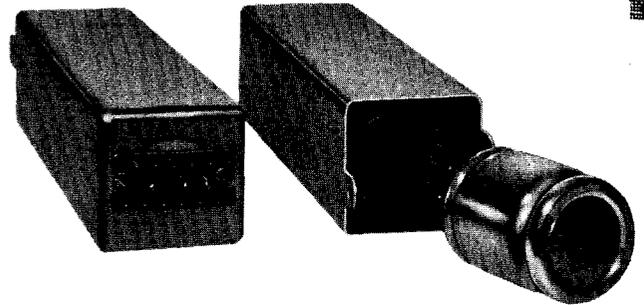

Fig. 1 — 849A Network
2.01 The 849A network is a plug-in unit (see Fig. 1) equipped with a 15-pin connector plug and is designed to be plugged directly into the mating connector socket of the equipment mounting shelf. The network consists of a 600:1200-ohm transformer and a 600-ohm balanced pad (when the required 89-type plug-in resistor is inserted in the pad socket). The network is housed in a metal can approximately 1-3/4 inches wide by 1-3/4 inches high by 7 inches long.